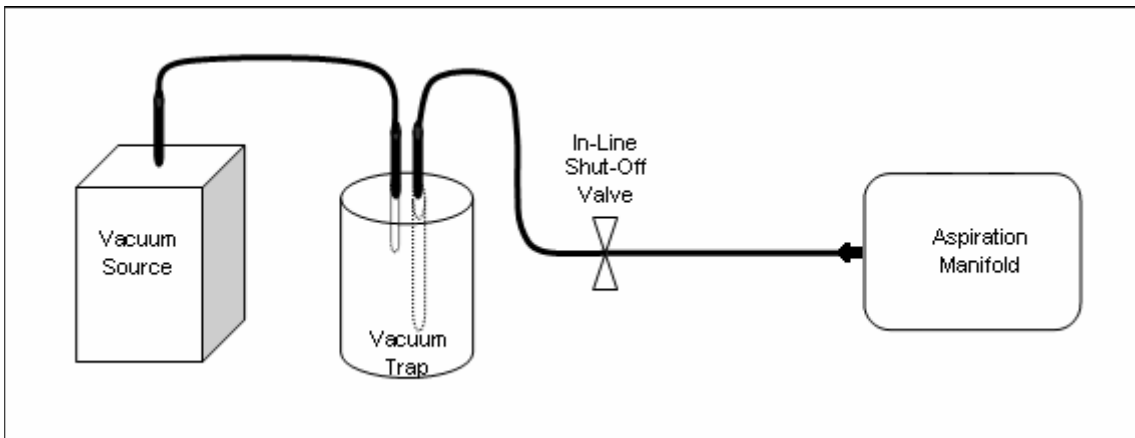

Figure 2. Connecting the Manifold to Vacuum System.
2. Attach one end of a vacuum hose to the nozzle on the aspiration manifold (VP 178D) and other end to a valve connected to a vacuum source (see Figure 2 below).